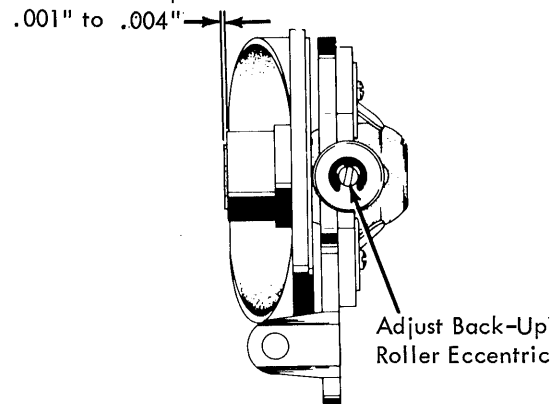

FIGURE 65. Shift Cam Back-Up Roller Adjustment
1. **Shift Cam Back-Up Roller** - Adjust the back-up roller eccentric left or right so that .001" to .004" of the cam bearing extends beyond the cam (Fig. 65). The eccentric should be kept in the bottom half of its orbit.